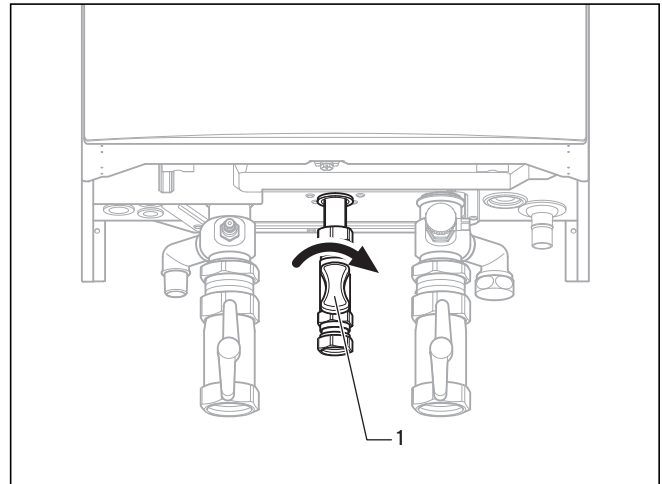

Fig. 2.1 Closing the gas isolator cock
- Close gas isolator cock (1, Fig. 2.1) on unit!